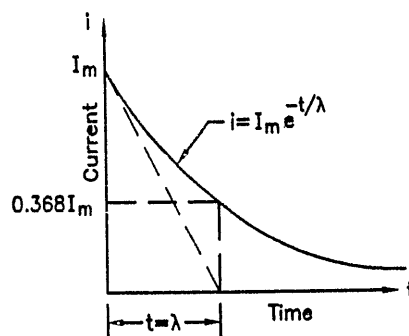

FIG. 1.179 : RELATIONSHIP BETWEEN DECAY OF CURRENT AND TIME
- The decay of current is shown in Fig. 1.179.